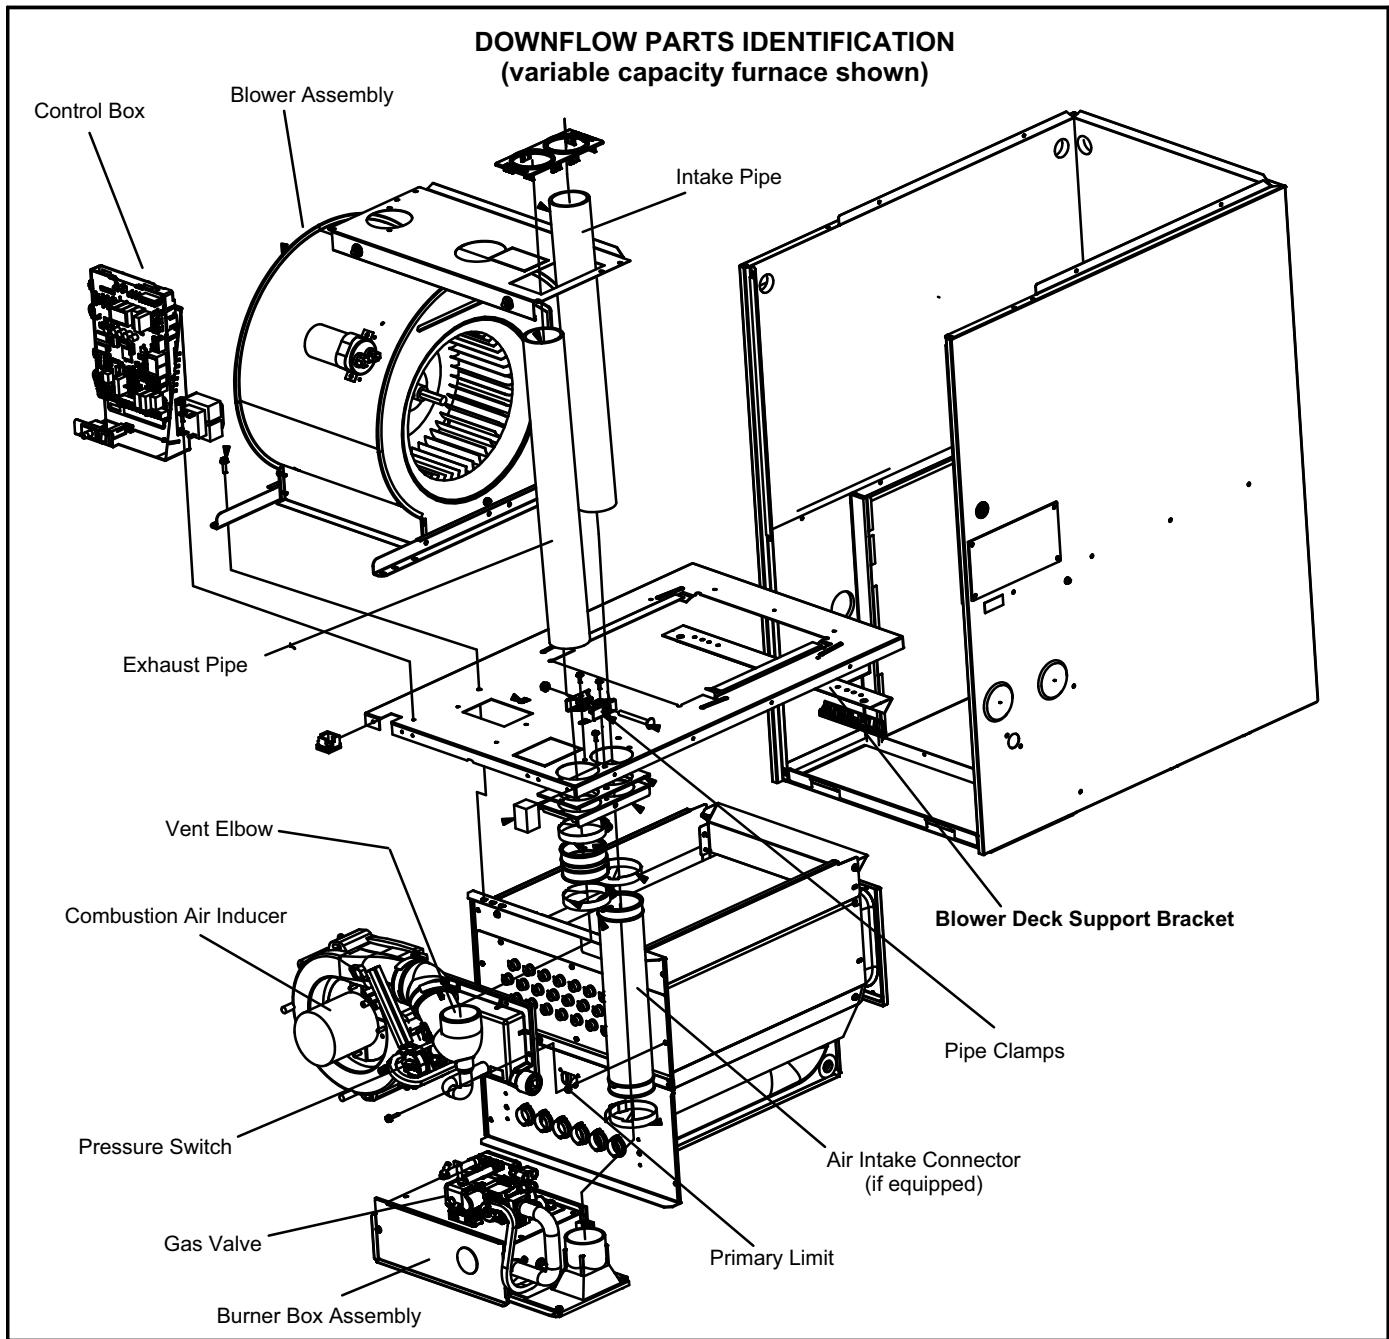

FIGURE 1
Refer to figure 1 as you disassemble the the unit. Place papers or protective covering in front of the furnace before removing the heat exchanger assembly.
- NOTE** - If blower deck support bracket is not present, use field provided sheet metal screws to install kit provided bracket. See figure 1.